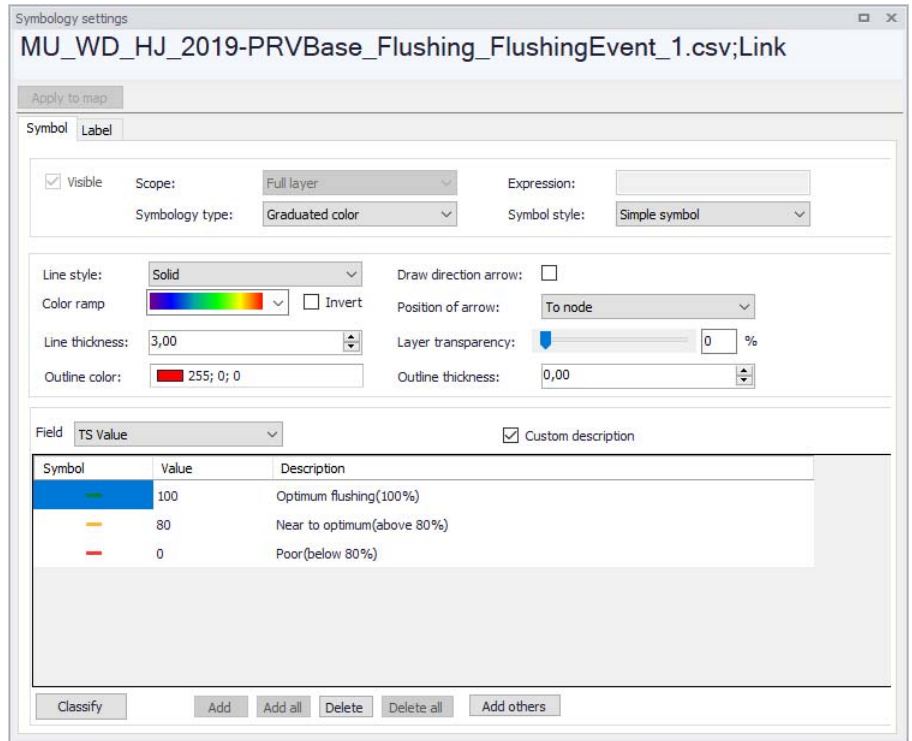

Figure 20.17 The Symbology Settings dialog
- On the Symbols and Layers panel of the result plot, click on a result item layer. This will open the Symbology Settings editor (Figure 20.17). Note that this editor functions similarly as the Edit style dialog from the result map window.